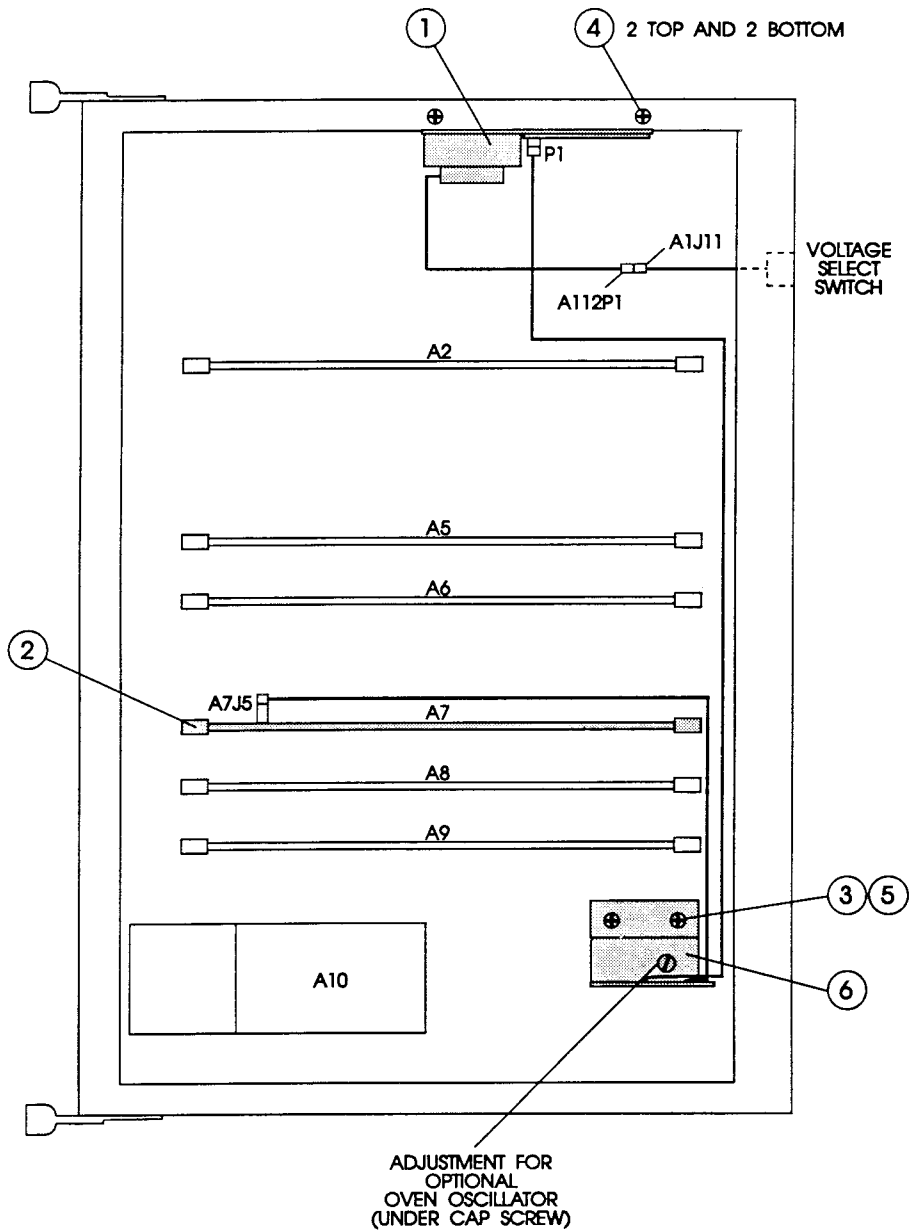

Figure 11-17. Oven Oscillator Connection Diagram.
6. While monitoring the 10 MHz timebase signal from the 585B/588B on the oscilloscope, adjust the frequency of the timebase by turning the adjustment located under the oven oscillator cap screw (refer to Figure 11-17) until the horizontal movement rate is  $\leq 1$  centimeter in 10 seconds. This sets the timebase to an accuracy of  $1 \times 10^{-9}$  (10 MHz  $\pm 50$  mHz).